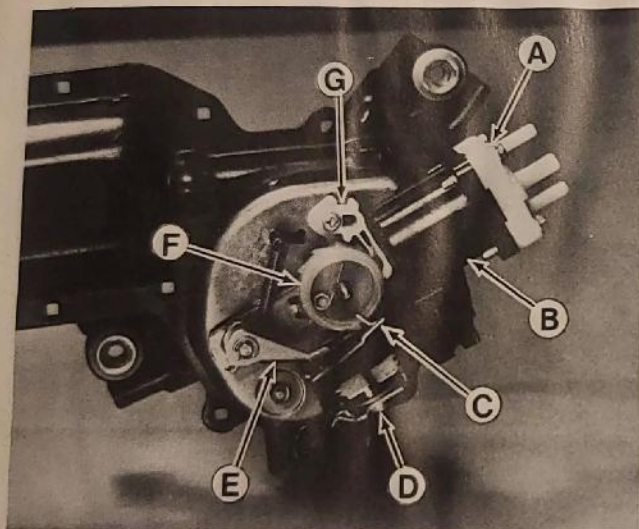

Fig. 20. Pump Components
The pump components are located under a plastic cover on the gearbox portion of the motor assembly (fig. 20). The valve assembly (A) is next to the piston assembly (B). Also notice the armature (C), coil (D), pawl (E), ratchet wheel (F), and ratchet dog (G).